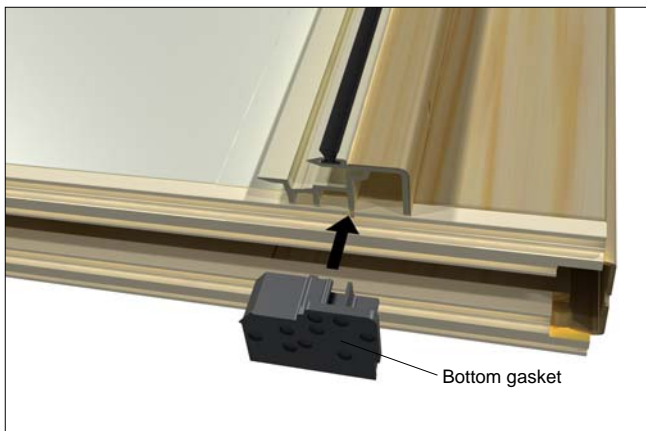

Figure 6
3. Install bottom gasket. See figure 6.